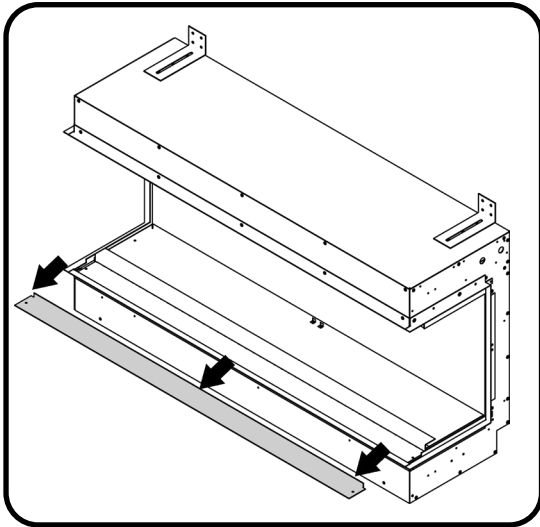
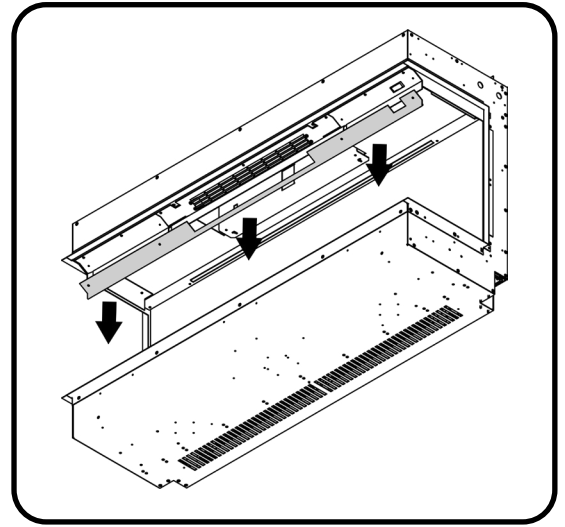

Fig 1.
Fig 2.
- 1 First remove the bottom glass retainer bar by simply lifting out of place (**Fig 1**). Then you can remove the top retainer bar by unscrewing the fixings (**Fig 2**). **Please note: Support must always be provided to the glass when removing the top retainer bar to prevent it falling forward and causing damage or injury.**
- 2 Apply the suction cup to the glass and position the bottom edge of the glass first, then pivot the glass into the appliance. If not using a suction cup, carefully hold the glass on both sides and follow the same process. 2 people may be required for this to ensure the glass is carefully supported at all times (**Fig 2**).